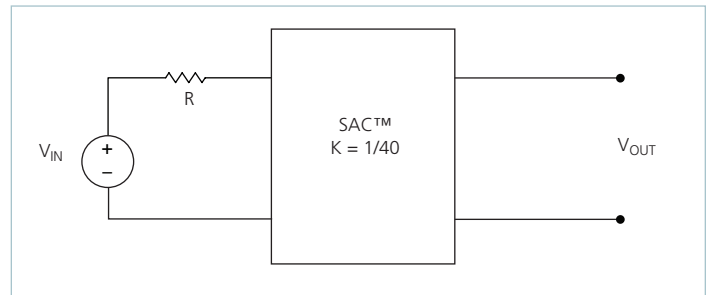

Figure 18 – K = 1/40 Sine Amplitude Converter with series input resistor
The use of DC voltage transformation provides additional interesting attributes. Assuming that R_{out} = 0Ω and I_q = 0A, Eq. (3) now becomes Eq. (1) and is essentially load independent, resistor R is now placed in series with V_{IN} as shown in Figure 18.
Assuming that $R = 1\Omega$, the effective R as seen from the secondary side is $0.63m\Omega$, with $K = 1/40$ as shown in Figure 18.